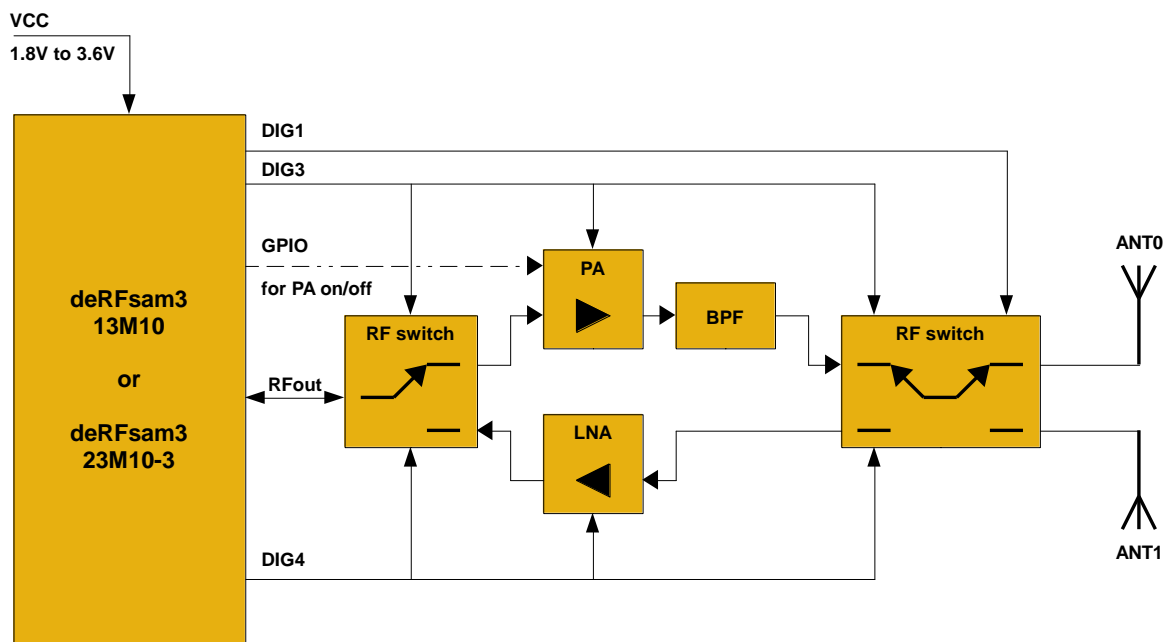

Figure 40: block diagram for external PA/LNA and antenna diversity control
The radio module deRFsam3-13M10 and 23M10-3R can be connected with an external front end including power amplifier (PA) for transmission and low noise block (LNA) for receiving. **Figure 40** shows a possible design as block diagram. A custom design can contain a single PA or single LNA or a complete integrated front-end chip. It depends mainly on the application. Furthermore, it is possible to include a RF switch for driving the antenna diversity feature.